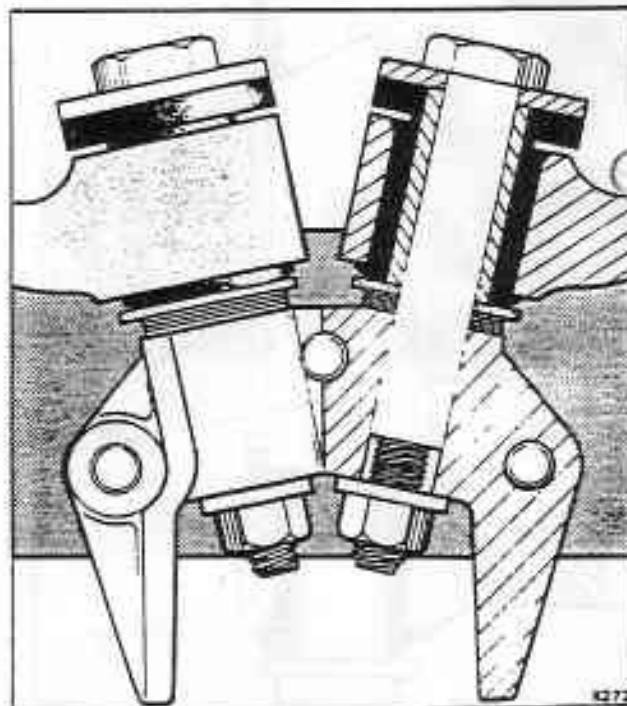

Fig. H4-2 Front triangle lever mount (Parallel bush)
14. Remove the large nuts or bolts from the triangle lever pivot bushes and remove the triangle levers. Collect the shims if fitted (see fig. H4-2).
The bushes should be pressed in so that the large diameter buffer section of the bush faces rearwards when the lever is fitted to the car (see figs. H4-2 and H4-4).
7. Measure the distance between the bearing housing and the inner washer (see fig. H4-2). Select the number of shims required to fill this distance, rounding up or down to the nearest shim.